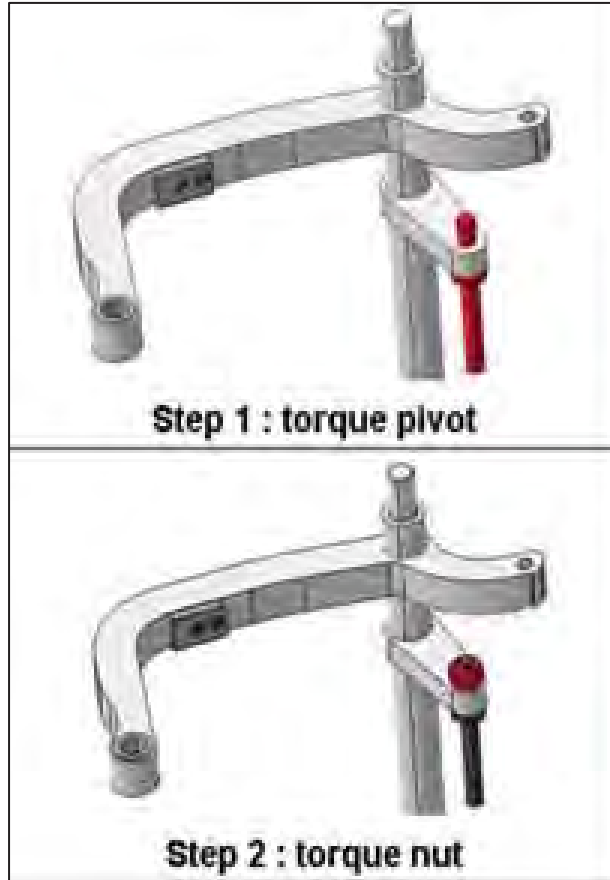

Figure 9
7) On the damper pivot, loosen the assembly and re-tighten in the appropriate sequence. (Fig. 9)